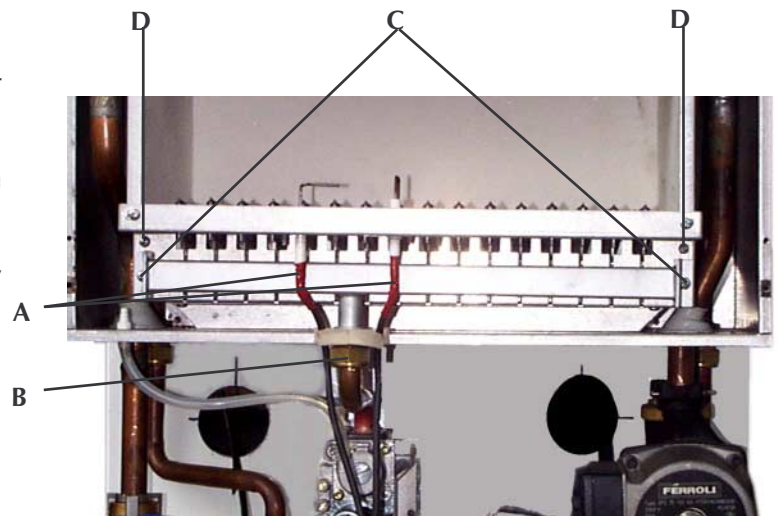

Fig. 29
7.10 Removal of burner (fig. 29)
7.11 Injectors (fig. 29)